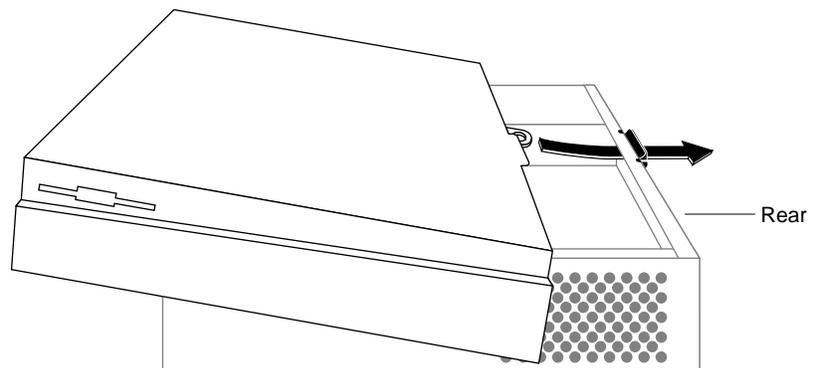

Figure 3-18 Replacing the Top Cover on the Indy Workstation
1. Facing the front of the system, lower the cover a few inches from its fully closed position, as shown in Figure 3-18.